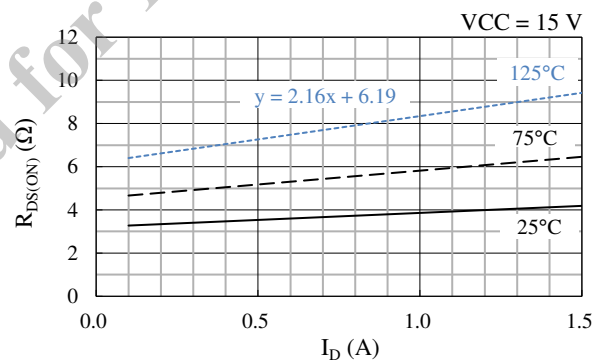

Figure 12-1. Linear Approximate Equation of RDS(ON) vs. ID Curve
Steady-state loss in a power MOSFET can be computed by using the RDS(ON) vs. ID curves, listed in Section 13.3.1. As expressed by the curves in Figure 12-1, a linear approximation at a range the ID is actually used is obtained by: RDS(ON) = α × ID + β.